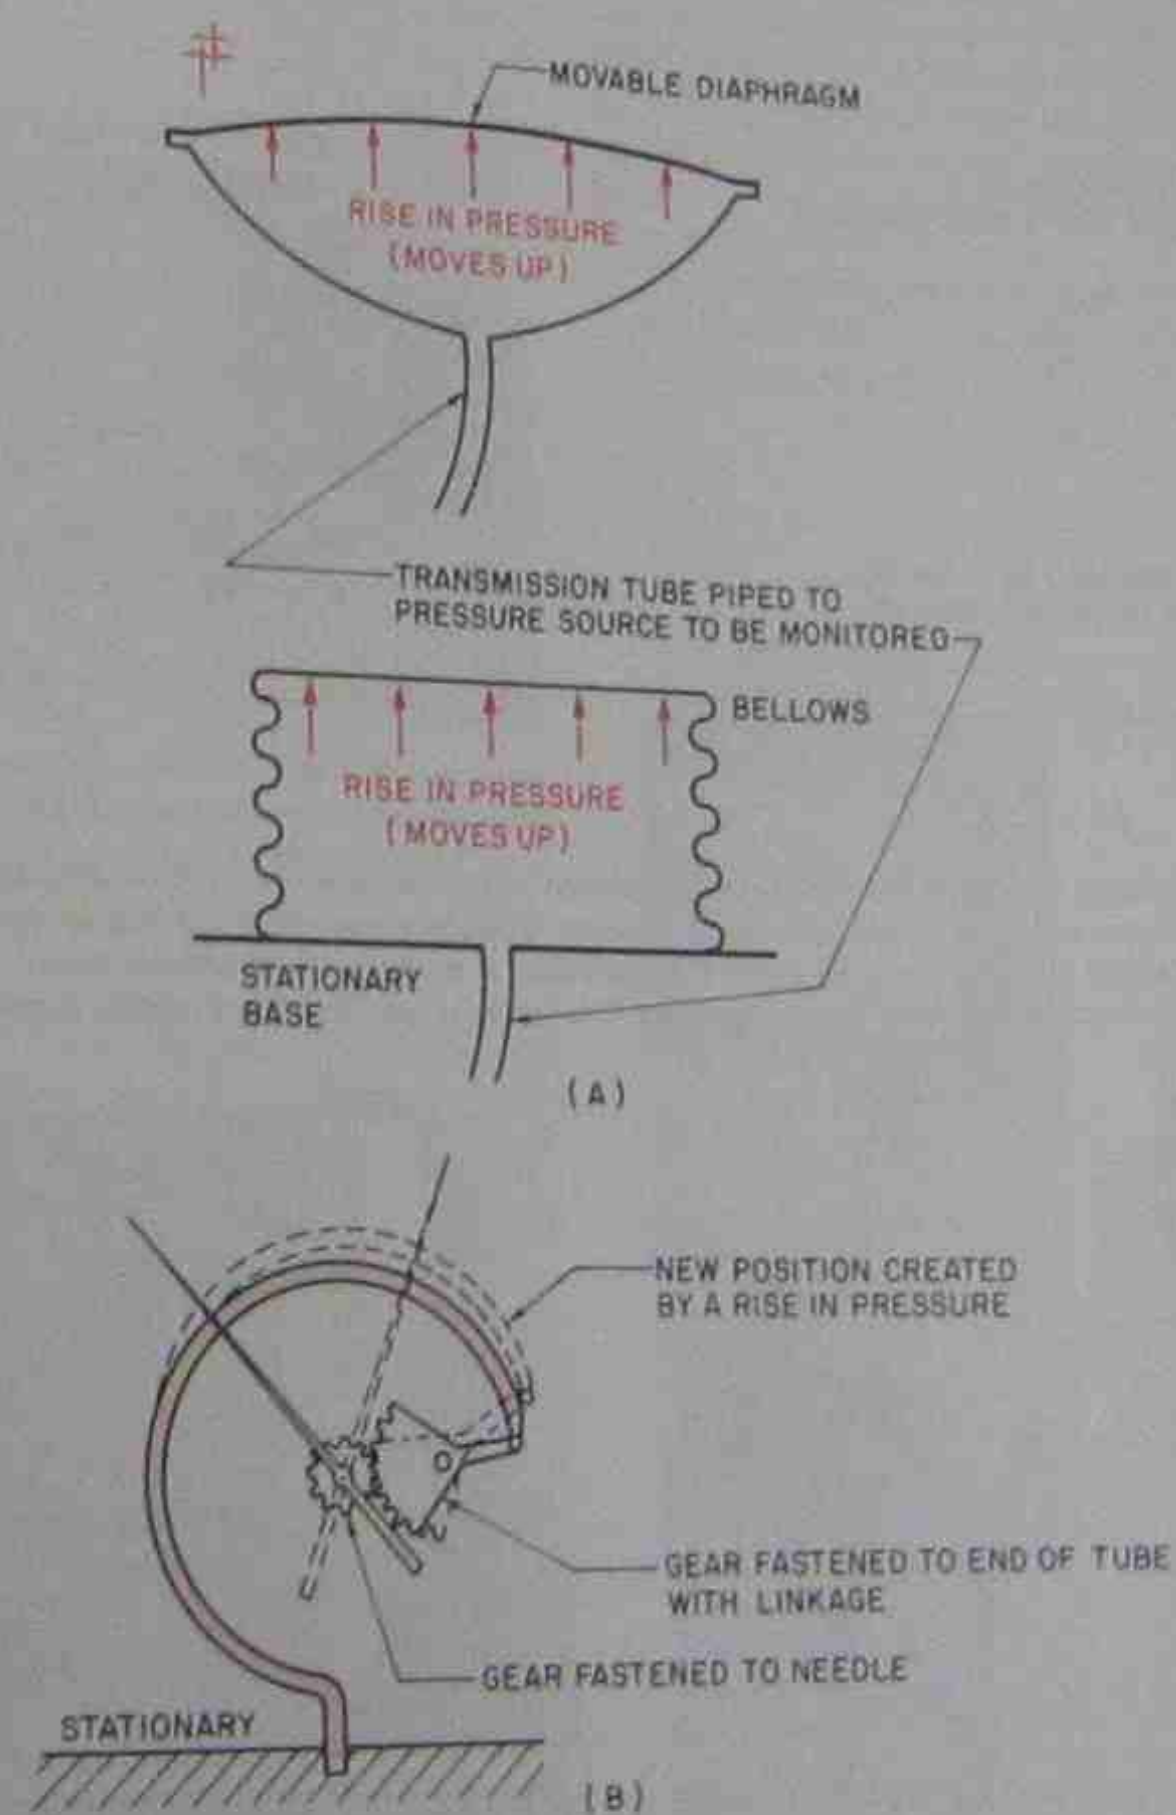

Figure 15-2. Moving part of most pressure-type controls.
2. Pressure controls contain a bellows, a diaphragm or a Bourdon tube to create movement when the pressure inside it is changed. Pressure controls may be attached to switches or valves, Figure 15-2.